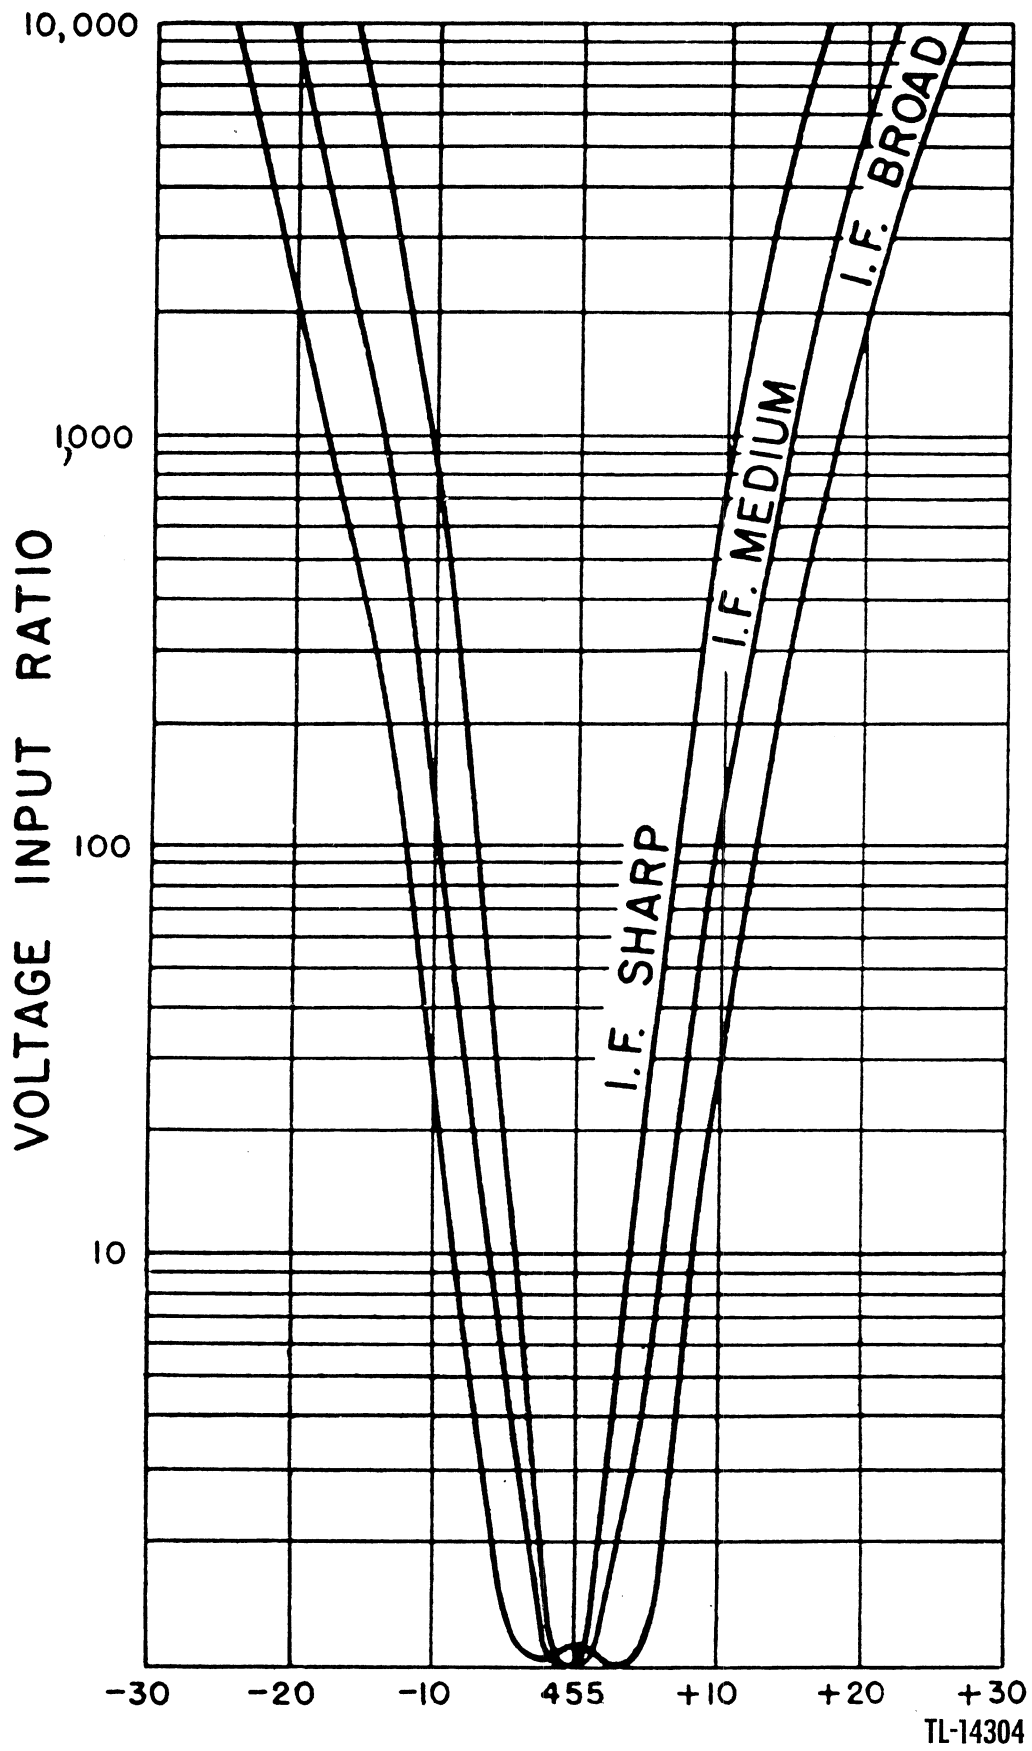

Figure 4. I-f selectivity curves without crystal filter.
b. Selectivity. The selectivity of the receiver is determined by the band pass of the i-f circuits. The SELECTIVITY control, in conjunction with the crystal-filter circuit, provides six degrees of selectivity. The width of the band pass is variable from a few hundred cycles at SHARP CRYSTAL position, to approximately 25 kc on BROAD I.F., at 50 percent down on the selectivity curves (figs. 4 and 5).
(8) The AVC — BFO switch is normally used in the A.V.C. ON position for modulated signals. For weak signals, however, the A.V.C. OFF position will give slightly greater sensitivity.
(9) The B.F.O. control varies the frequency of the audio output when the AVC — BFO switch is to B.F.O. ON position and a signal is tuned in.
(10) The RECEIVE — SEND switch must be in the RECEIVE position to operate the receiver, but may be placed in the SEND position if the receiver is not needed for short periods. In the SEND position the heaters remain at operating temperature. Only the high voltage is removed from the receiver circuits.
(11) The A.N.L. control is used to reduce electrical or ignition noises. Normally the control is left in the O position.
(12) The SELECTIVITY control is used to reduce signal interference. Three positions place the i-f crystal filter in the circuit. The other three positions do not. Whenever possible, the BROAD I.F. position should be used for voice reception, since the fidelity of the receiver is decreased as the selectivity is increased. For c-w reception any position of the control may be used to increase the selectivity. Figures 4 and 5 show the selectivity curves for the six positions.
- (4) XTAL BROAD (similar to sharp i.f. but sharper cutting of side bands).
- (5) XTAL MED. (next selectivity step after (subparagraph (4) above), greatly increased side band cutting, more pronounced crystal filtering of interference, very few high-frequency components present).
- (6) XTAL SHARP (position of extreme selectivity, practically no side bands, very pronounced crystal filtering).
d. The graphic effects of the different steps of selectivity on a signal are shown in figures 4 and 5. The crystal filter circuit is effectively a series resonant circuit which readily conveys all signals of the crystal frequency to the grid of the next tube. However, to frequencies slightly higher than the crystal frequency, the crystal and holder form a parallel resonant circuit which opposes the transfer of signal. Thus the crystal only transfers signal on the low-frequency side of the series resonant frequency of the crystal circuit. The bandwidth of the crystal and transformer secondary circuits can be varied by shifting the resonant frequency of the transformer secondary.